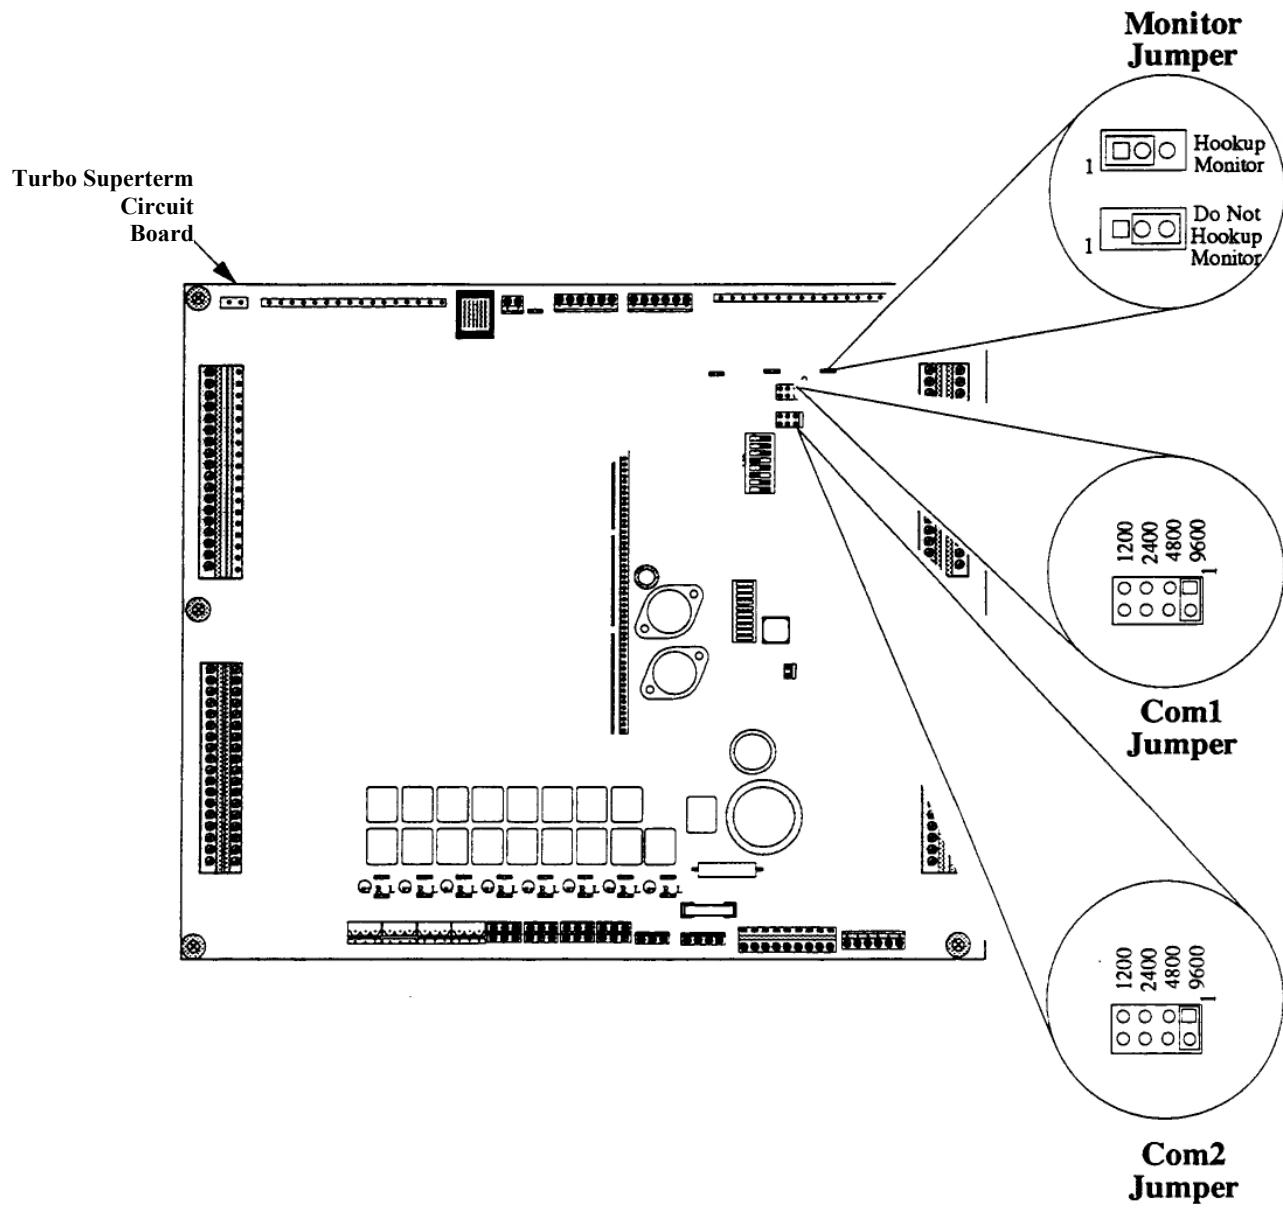

Figure 47 - COM1, COM2, and MONITOR Jumper Locations and Settings
- Set the COM1 jumper to contact the two posts adjacent to the desired baud rate (see Figure 47).
Determine the optimal communication rate between the Turbo Superterm and the peripheral communication device. Set the COM2 jumper to contact the two posts adjacent to the desired baud rate (see Figure 47).
- Set the jumper to contact the center post (pin 2) and the lefthand post (pin 1) (see Figure 47).
- Set the jumper to contact the center post (pin 2) and the right-hand post (pin 3) (see Figure 47).